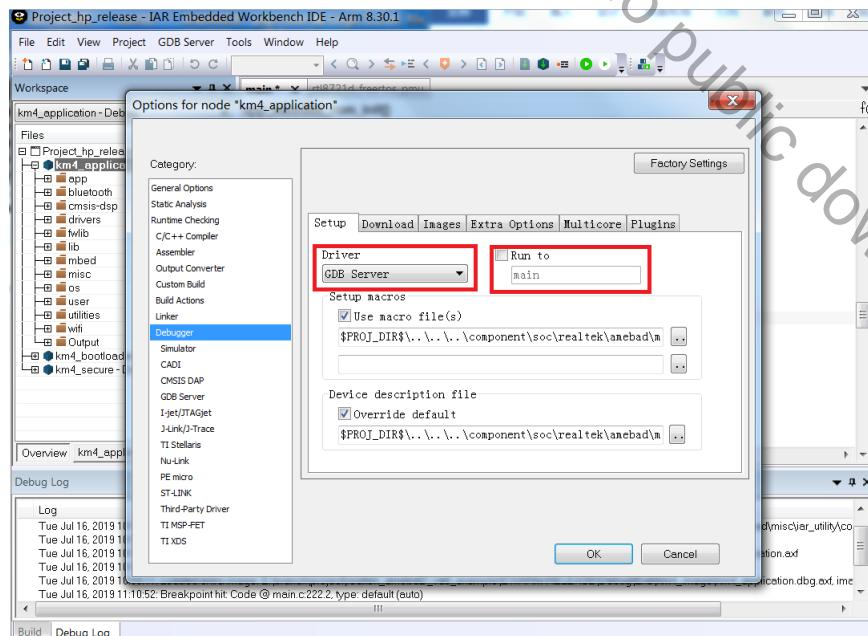

Fig 6-15 RLX Probe setup
- (3) If using RLX Probe, check whether the RLX Probe setting is correct.
- Click Project > Options > Debugger > Setup > Driver, choose "GDB Server" and don not choose "Run to", as Fig 6-15 shows.